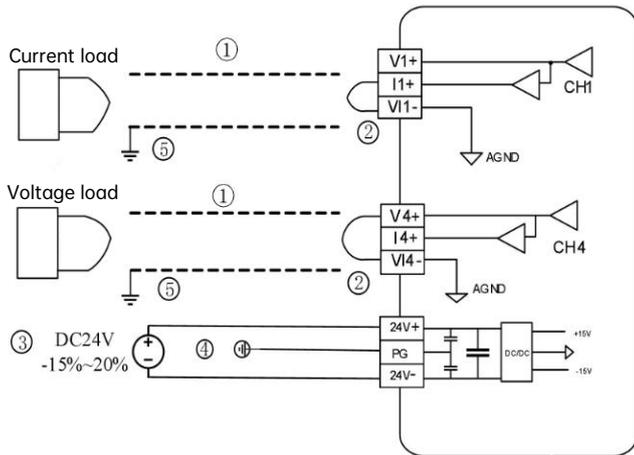

Fig 2-4 MU200-4DA terminal wiring diagram
Figure 2-4 shows the wiring requirements for terminals. ① ~ ⑤ indicates the notice when wiring:
- ① It is recommended to use a shielded twisted-pair cable, keeping far away from the power line;
- ② **Do not occur short-circuit between voltage terminals and current terminals in any mode.**
- ③ The power supply can use the auxiliary output DC24V power supply of the main module, and can also use other power supplies.
- ④ The ground terminal is well connected;
- ⑤ Do not use the empty pin of terminal.